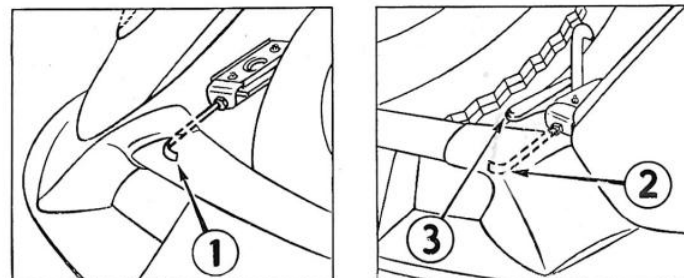

Figure 1
- Release the two „ safety locks ” at the right and the left of the hood, by passing the hands in the bumper on each side of the number plate and pull on the handles **1** and **2** (fig. 1).
- Raise the hood slightly with the left hand, then completely release it by passing the right hand between the hood and the bumper on the right hand side of the number plate and pressing on the lever **3** (fig. 1).